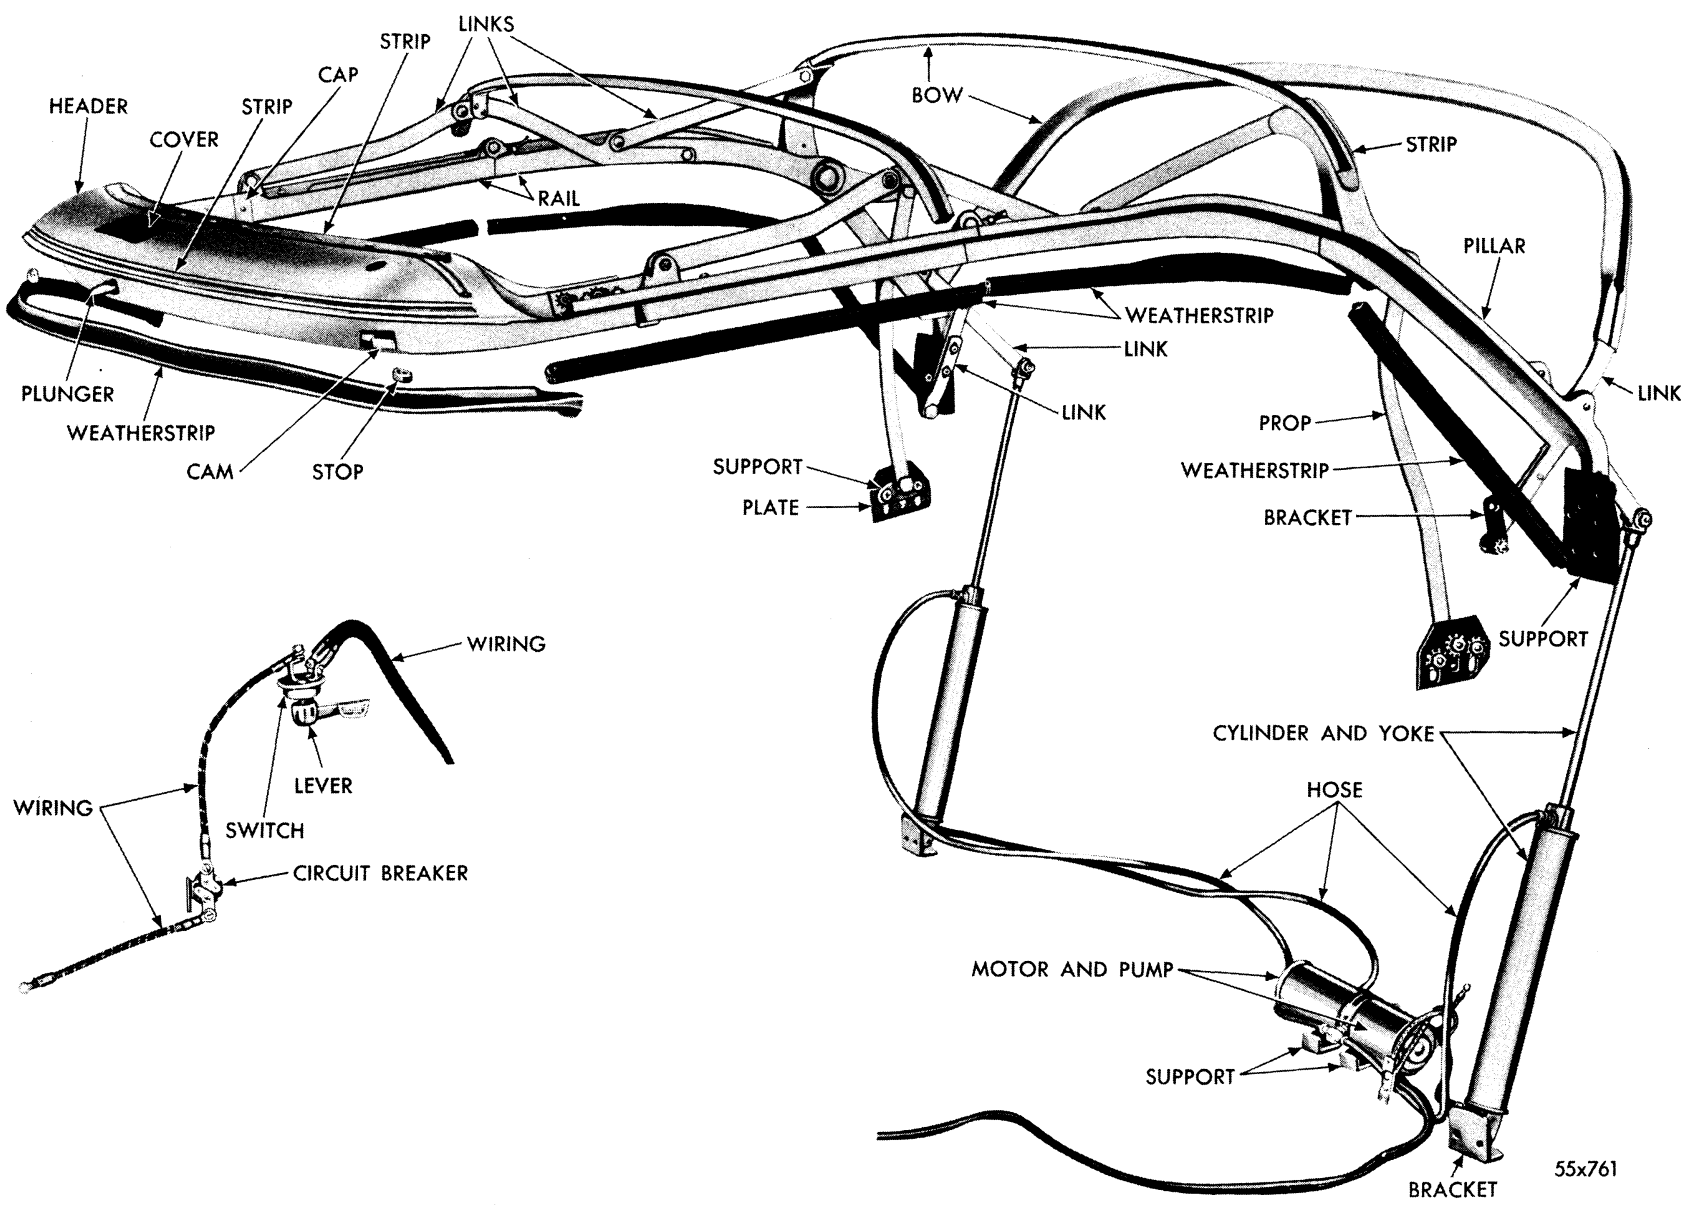

Fig. 63—Convertible Top Assembly
31. OPERATING THE CONVERTIBLE COUPE TOP (FIG. 63)